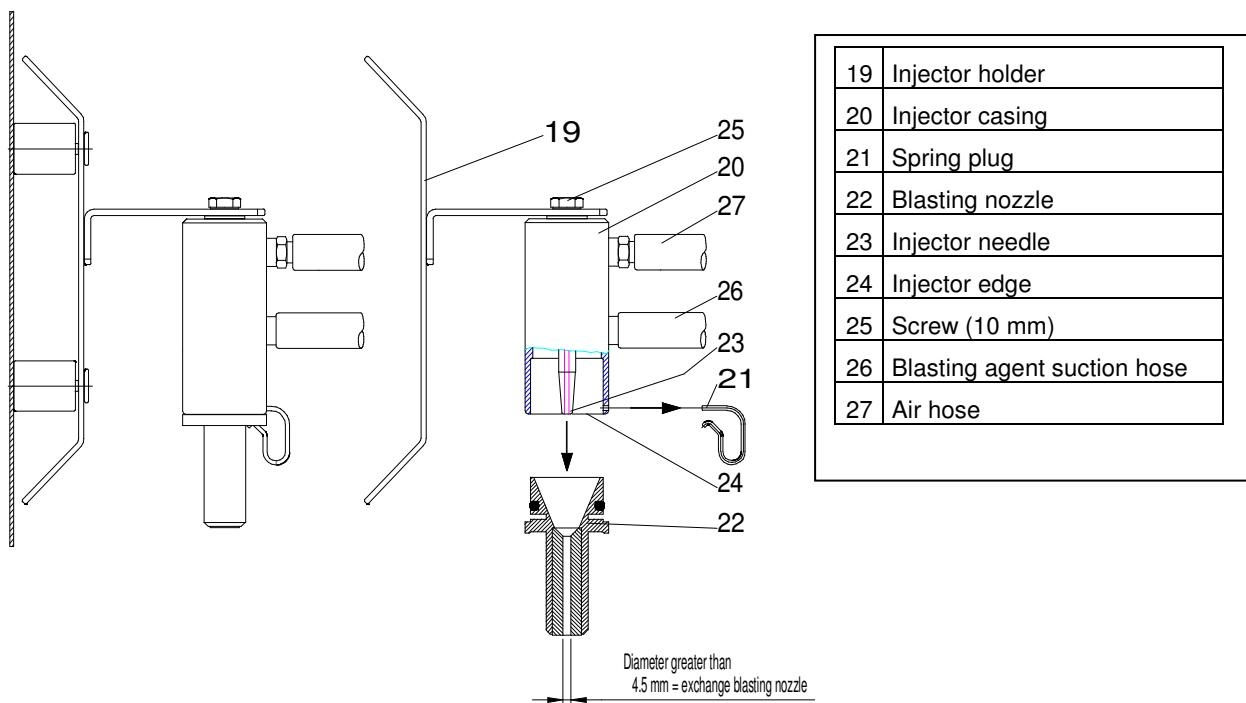

Fig. 4: Disassembling the injector
1. Switch off the unit at the main switch (12) and pull the mains plug!
2. Unhinge the injector holder (19) and take it out of the blasting chamber.
3. Detach spring plug (21) laterally.
4. Pull out blasting nozzle (22) by turning it and by applying counter force to the injector casing (20).
6. Worn-out jets (22) (diameter larger than 4,5 mm) should be removed (see fig. 4 page 14).
7. injector needle (23) should be level with the edge of the injector casing (24). If due to wear and tear the injector needle has shortened by more than 1,5 mm then you should replace the injector.
- Remove screw (25), seal air hose (27) and take out the injector together with the blasting agent suction hose (26).
8. Check the suction basket (31) in the lower part of the sand basin for dirt particles and, if necessary clean it (for further details see "Letting out blasting agent", section "4.4").